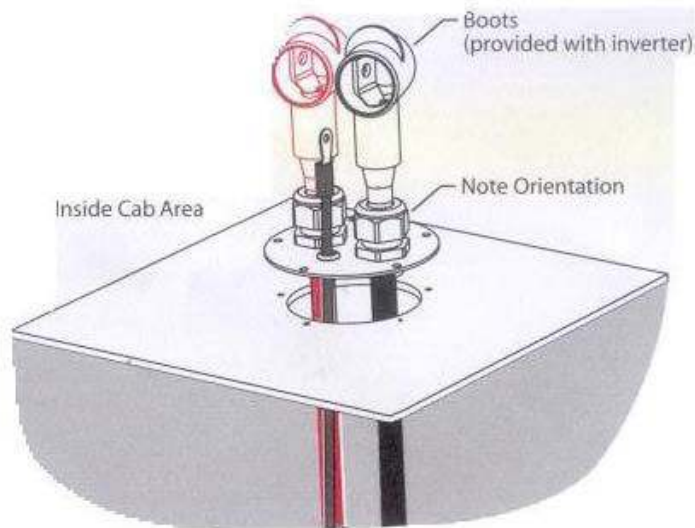

Figure 3 – Mounting Plate Orientation
7. Run the battery cables and the ground wire through the access hole. See Figure 3 for correct orientation.